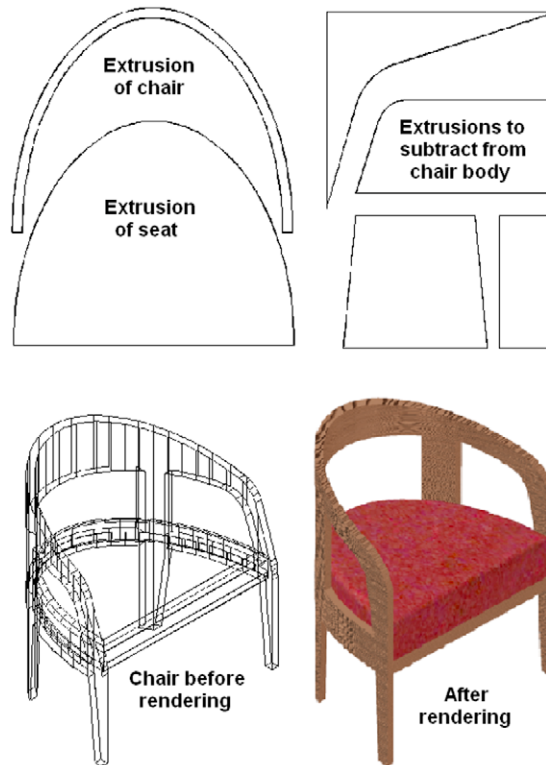

Fig. 15.38 Stages in constructing a chair
5. Add suitable materials and render the result (Fig. 15.38).